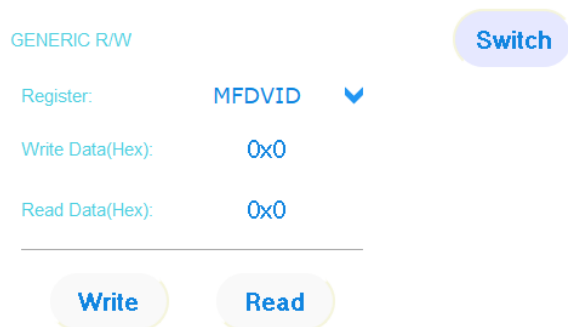

Figure 15. Generic Read and Write (**GENERIC R/W**) for Windows
10. Click **Switch** in Windows to enable the read and write of the registers directly (see Figure 15).